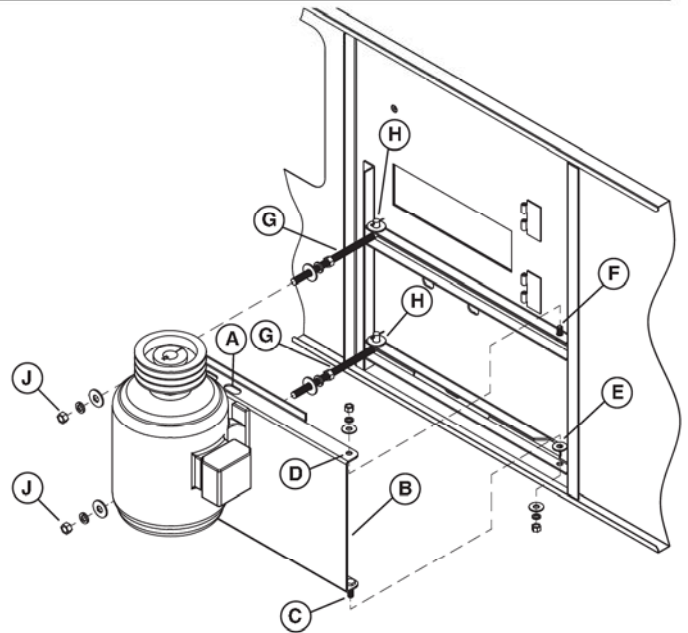

Figure 28 - External Motor Installation
1. Study Figure 28 before installing the motor base on the unit.